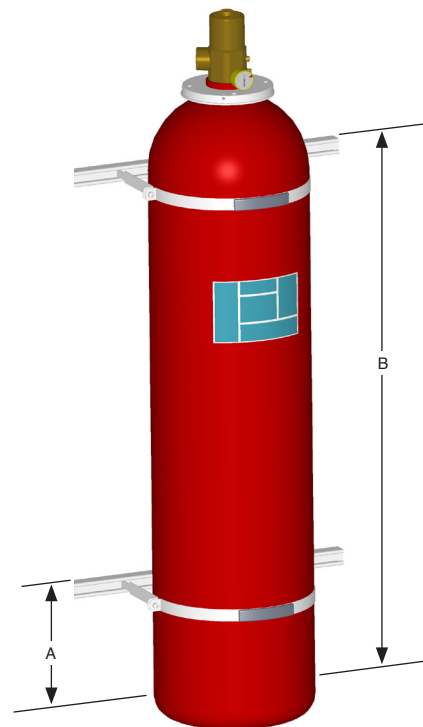

FIGURE 6-3
3. Insert the container bracket strap and secure with the bolts provided. See Figure 6-3.
3. Insert the container bracket and secure it with the bolts provided. See Figure 6-3, page 6-3.